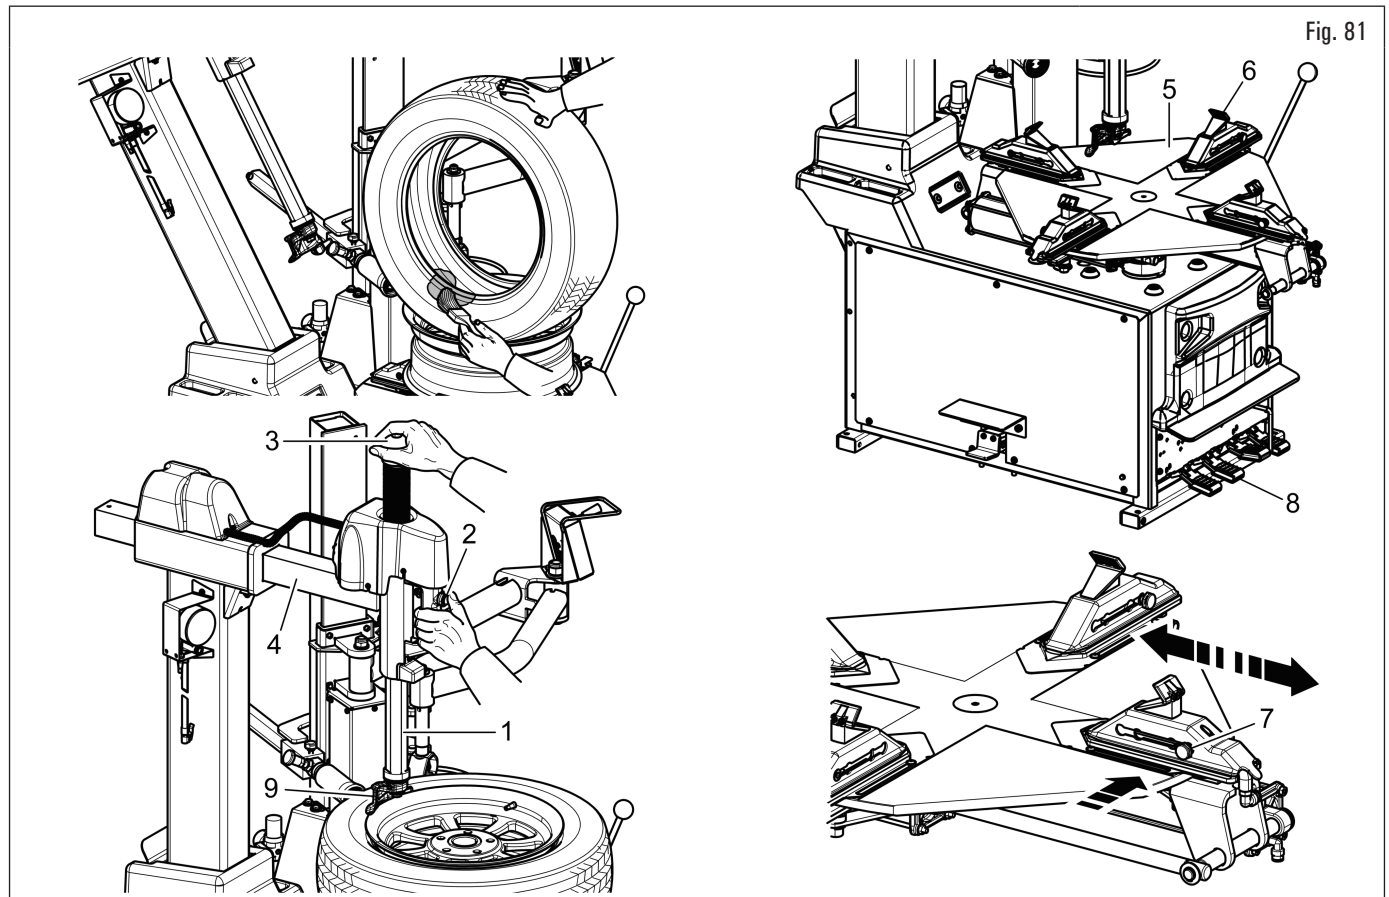

Fig. 81
1. lubricate the sidewalls of the tyre with a tyre lubrication paste (as shown in Fig. 81);
2. release the hexagon shaft (Fig. 81 ref. 1) through the relevant push button on handle (Fig. 81 ref. 2) and take it up (Fig. 81 ref. 3), fully home. Control horizontal arm (Fig. 81 ref. 4) tilting through the relevant pedal;
Make sure the wheel is placed at the centre of chuck's plate (Fig. 81 ref. 5). Make sure the wheel is clamped by jaws (Fig. 81 ref. 6) symmetrically.
1. adjust all of the 4 jaws by using the appropriate push button (Fig. 81 ref. 7), to match the required clamping range;
2. by pressing pedal (Fig. 81 ref. 8) in intermediate position, place the 4 fixing jaws (Fig. 81 ref. 6), so that the reference notch, printed on the chuck, is at about the same level of tyre diameter, printed on the sliding element;
3. place the wheel on the chuck, press the rim downward and completely lower pedal (Fig. 81 ref. 8) to secure the wheel.
3. bring the operating arm (Fig. 81 ref. 4) to work position;
4. release the hexagon shaft (Fig. 81 ref. 1) and set toolhead (Fig. 81 ref. 9) radially and vertically on rim and lock it in place using the push button on handle (Fig. 81 ref. 2);